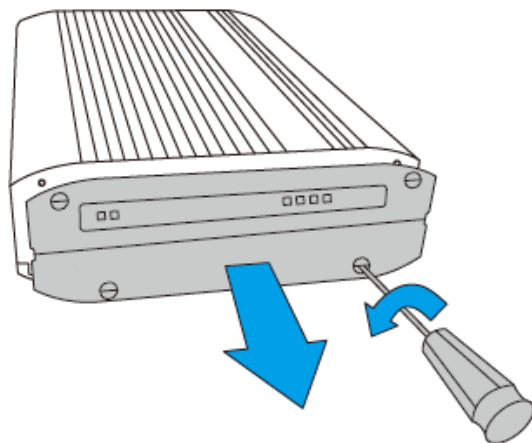

Figure 3-1: Front Panel Removal
- Step 1:** Remove all four screws from the front panel (**Figure 3-1**).